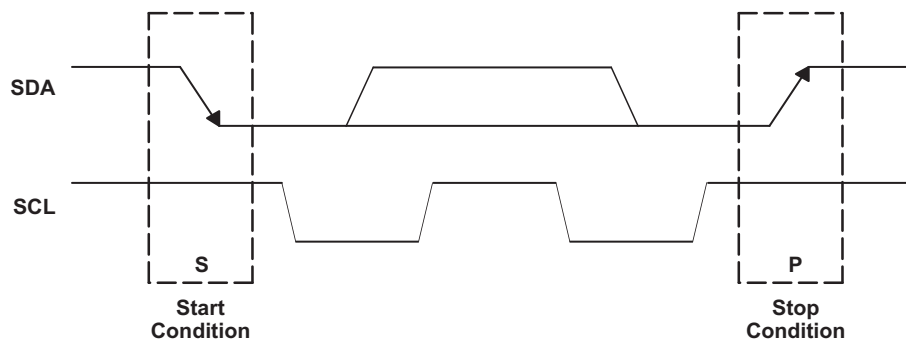

Figure 70. I²C Start and Stop Conditions
The basic I²C start and stop access cycles are shown in Figure 70.
- The master initiates data transfer by generating a start condition. The start condition exists when a high-to-low transition occurs on the SDA line while SCL is high, as shown in Figure 70. All I²C-compatible devices should recognize a start condition.
- To signal the end of the data transfer, the master generates a stop condition by pulling the SDA line from low to high while the SCL line is high (see Figure 70). This releases the bus and stops the communication link with the addressed slave. All I²C compatible devices must recognize the stop condition. Upon the receipt of a stop condition, all devices know that the bus is released, and they wait for a start condition followed by a matching address.